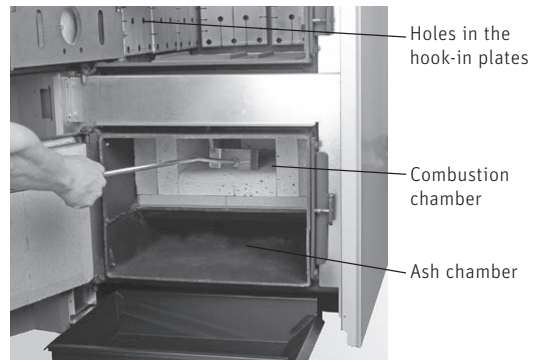

Fig. 31 Removing ash from combustion chamber and ash chamber
- Place ash pan under ash door (bottom door). Open ash door and carefully take all of the accumulated ash out of the combustion chamber and ash chamber – Fig. 31.